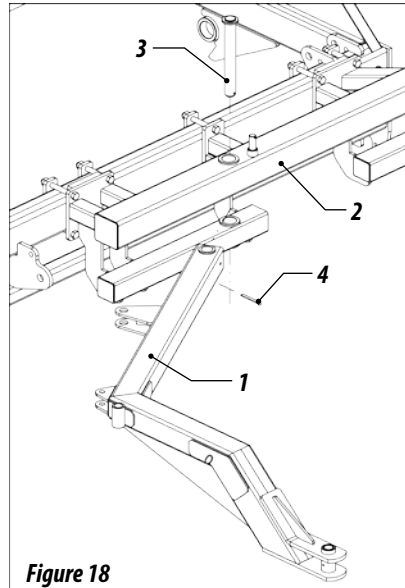

Figure 18
33- Attach the side frame (1) to the front frame (2) through the pin (3) and latch (4), figure 18.